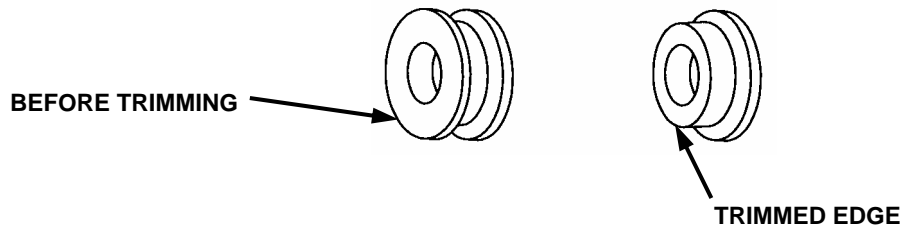

Figure 2-22. Apron Hose Grommet.
19. Use suitable cutting device on four grommets MS35489-107 (Figure 2-22) and trim off one wide end of grommet and make even with inside cylinder.